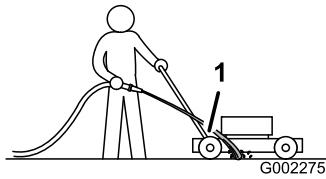

Figure 43
3. Hold the running garden hose at handle level and direct the water to flow on the ground just in front of the right rear tire (Figure 43).